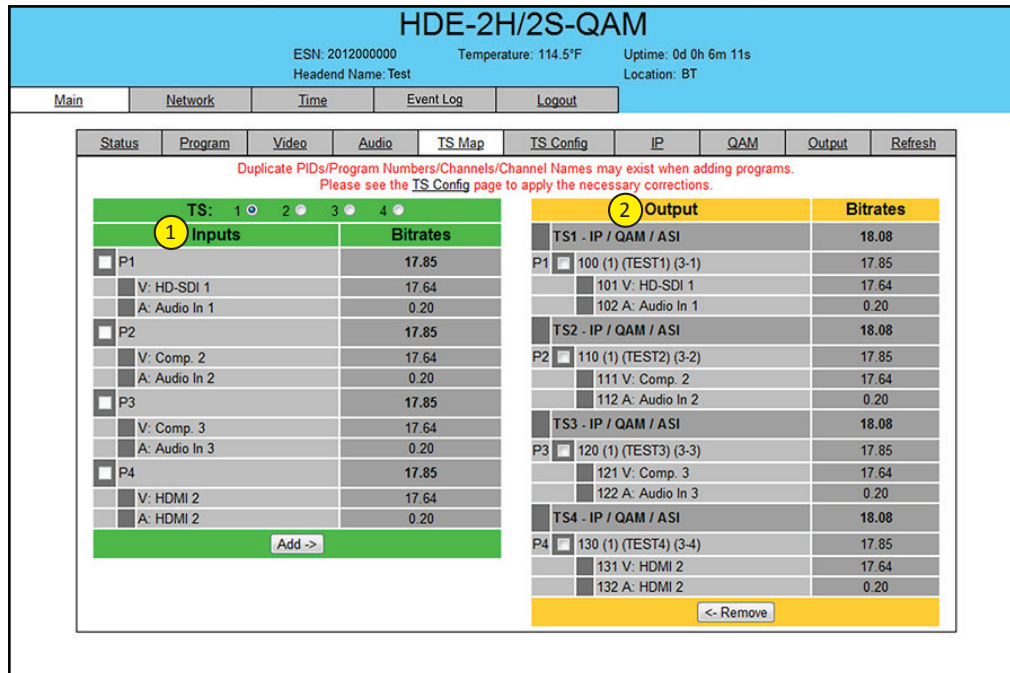

Figure 5.6 - "Main > TS Map" Screen
The "Main > TS Map" screen (Figure 5.6) is a "read and write" screen to assign programs to TS (s):
- Select the desired program; for example, P1 as shown in figure 5.6.
- **Add:** Once the selection of programs is completed, select the "Add" button. This will add the selected programs to the Output as shown in 2 of Figure 5.6.
PIDs, Program Numbers, Channels or Channel Names must be unique in a MPTS output stream. The user must edit the duplicated values using the "Main >TS Config" Screen (see Section 5.7 for details). The duplicate values will be highlighted in red color under **2** of Figure 5.6